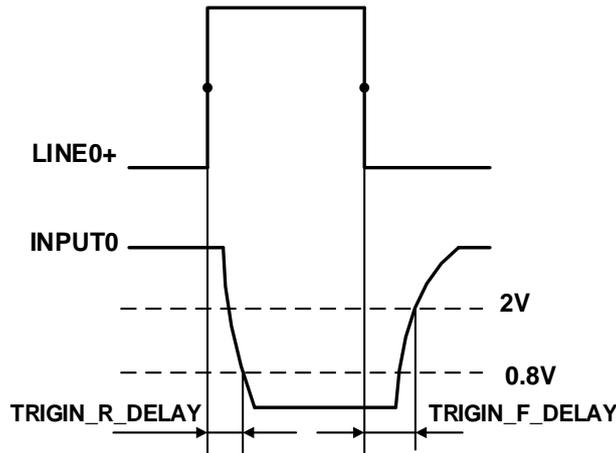

Figure 7-4 Parameter of opto-isolated input circuit
- Rising edge delay: <math>< 50\mu\text{s}</math> ( $0^\circ\text{C} \sim 45^\circ\text{C}</math>), parameter description as shown in Figure 7-4$
- Falling edge delay: <math>< 50\mu\text{s}</math> ( $0^\circ\text{C} \sim 45^\circ\text{C}</math>), parameter description as shown in Figure 7-4$
- Input rising time delay:  $< 2\mu\text{s}$  ( $0^\circ\text{C} \sim 45^\circ\text{C}$ ), parameter description as shown in Figure 7-4
- Input falling time delay:  $< 2\mu\text{s}$  ( $0^\circ\text{C} \sim 45^\circ\text{C}$ ), parameter description as shown in Figure 7-4